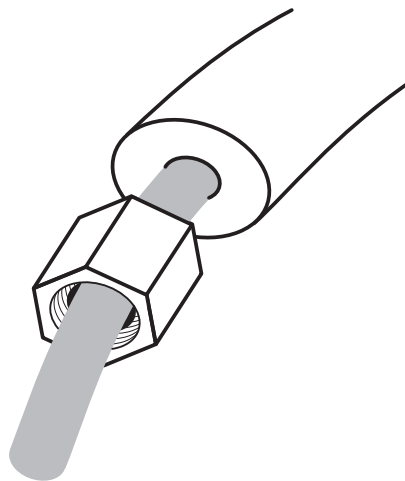

Figure 6:
3. Remove the nut from the unused compression fitting on the back of the **fluids block**, and slide it over the end of one of the pieces of plastic tubing. Leave about one inch of tubing protruding from the end of the nut, as shown in **Figure 6**.
5. Remove the nut from the unused compression fitting on the back of the **flow cell**, and slide it over the end of the other piece of plastic tubing. Leave about one inch of tubing protruding from the end of the nut, as shown in **Figure 6**.
7. Remove the larger nut from one of the union compression fitting, and slide it over the end of one of the rigid tubing outlets on the lid of the refrigerated bath. Leave about one inch of tubing protruding from the end of the nut, as shown in **Figure 6**.
11. Push the free end of the foam insulation back, exposing about two inches of plastic tubing. Remove the smaller nut from one of the union compression fitting on the lid, and slide it over the end of the exposed plastic tubing. Leave about one inch of tubing protruding from the end of the nut, as shown in **Figure 6**.
13. Remove the smaller nut from the unused compression fitting on the lid, and slide it over the free end of the other length of plastic tubing. Leave about one inch of tubing protruding from the end of the nut, as shown in **Figure 6**.